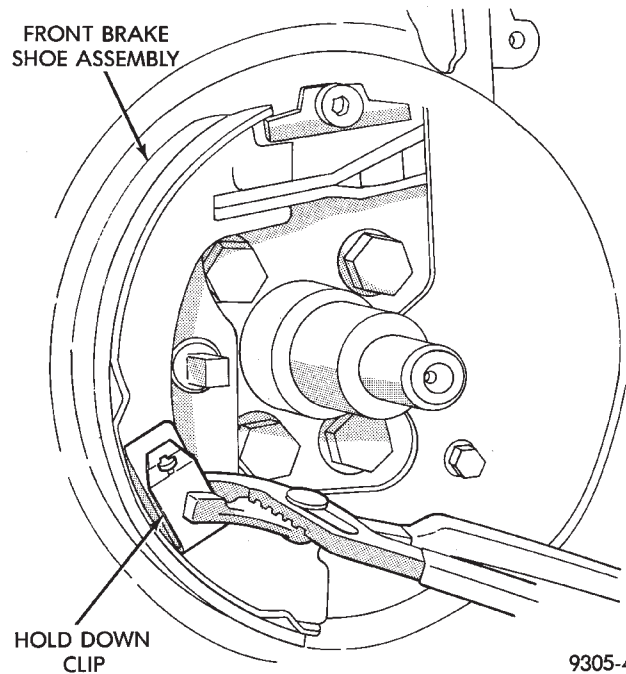

Fig. 172 Front Park Brake Shoe Hold Down Clip
- (11) Remove the hold-down clip from the front park brake shoe (Fig. 172). Then remove front park brake shoe.
- (1) Install front brake shoe and hold down clip (Fig. 172).